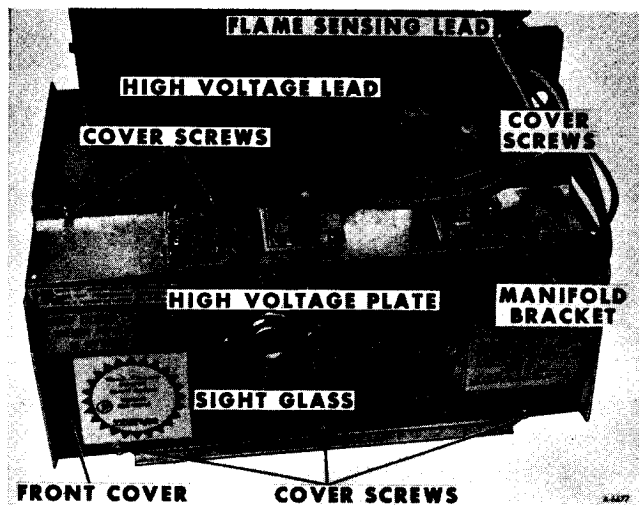

Figure 18 — Location of Furnace Front Cover
2. Disconnect high voltage lead from spark electrode (Figure 18). Remove high voltage plate and gasket.
2. Install furnace front cover (Figure 18). Be sure flame sensing lead is located next to main burner gas line.